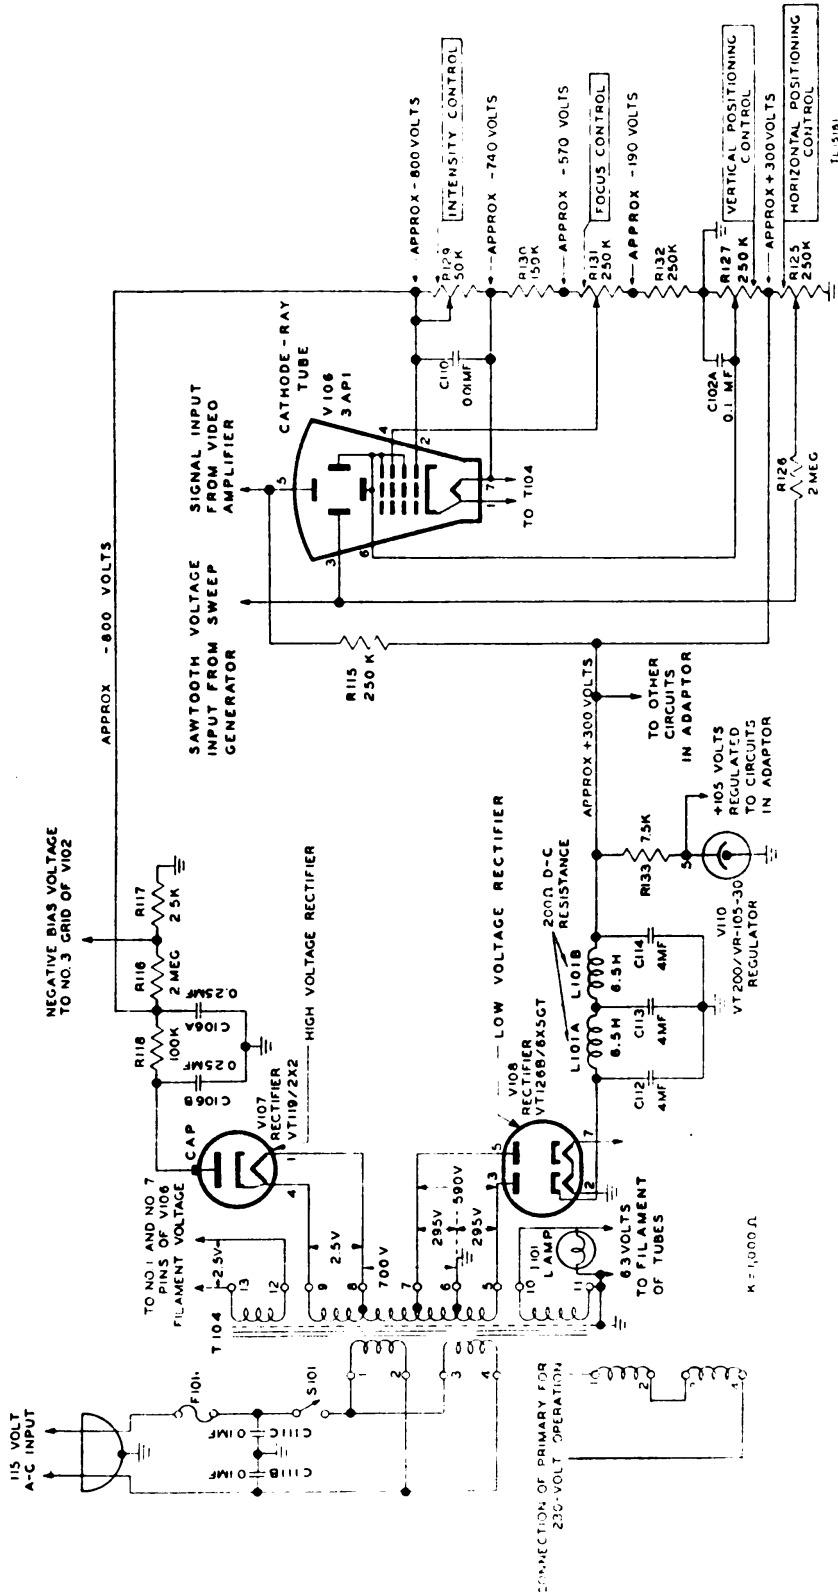

Figure 18. Simplified schematic diagram of rectifier power supplies and cathode-ray tube.
d. In addition to the saw-tooth voltage and signal voltages which are applied to the deflection plates of the cathode-ray tube, several fixed d-c potentials are necessary for the proper operation of this tube (fig. 18). D-c potentials must be impressed on the cathode, intensity or control grid, and the focusing and accelerating anodes, in order to concentrate the electrons into a sharp beam which will pass through the deflection plates and strike the fluorescent screen. Positioning voltage is also necessary on both the vertical and horizontal deflection plates so that the beam or pattern on the screen may be properly centered.
(1) Potentiometers R129 and R131 in series with resistors R130 and R132 act as a voltage divider between the -800 -volt high-voltage rectifier output and the chassis ground. Potentiometers R127 and R125 across each of which is impressed a $+300$ -volt potential, serve as positioning controls.
(2) The electron emitter, or cathode, of V106 is impressed with a high negative voltage between approximately -740 volts and -800 volts, the exact voltage depending on the setting of the intensity control R129. In addition to affecting this voltage, potentiometer R129 also controls the potential difference between the cathode and the intensity grid. By making this difference of potential greater, the grid becomes more negative than the cathode and reduces the amount of electron flow, and thus the amount of illumination on the fluorescent screen. Conversely, when the potential difference is decreased, the grid becomes less negative in respect to the cathode and a greater number of electrons pass through the tube to the screen.
(3) The electrons, after leaving the cathode and passing through the intensity grid, are greatly accelerated by the high positive potentials impressed on the focusing and accelerating anodes.
The adaptor is designed to operate from 115- or 230-volt, 50/60-cycle alternating current. The a-c power source is applied to the primaries of transformer T104 through fuse F101 and switch S101, the POWER ON-OFF switch of the adaptor (fig. 1). Capacitors C111B and C111C act as line filters to prevent interference from entering the adaptor through the power connections. The transformer primaries are connected in series (fig. 18) when the power source is 230 volts and are connected in shunt (fig. 18) when the power source is 115 volts. The secondary windings of transformer T104 supply the a-c voltages for the high and low voltage rectifiers, as well as the filament voltages for the various tubes in the adaptor. The circuit shown in figure 18 is a simplified schematic diagram of the power supply and cathode-ray tube in Panoramic Adaptor BC-1031-A or BC-1032-A. Section IV explains the differences between these models and Panoramic Adaptors BC-1031-B and BC-1032-B.
(4) The two output voltages are tapped off the voltage divider R118, R116, and R117.
(5) The output power of this rectifier is characterized by high voltage and low current.
b. Low-voltage Rectifier (fig. 18). Tube JAN 6X5GT (VT-126B), V108, is a full-wave rectifier tube employed in the low-voltage power supply. This rectifier furnishes a +300-volt d-c potential to various circuits in the adaptor as well as horizontal and vertical positioning voltages for the cathode-ray tube. In addition, it supplies regulated +105-volt, d-c potential for the plate of V101 and the screen grids of V102 and V105.
(1) The anodes of tube V108 are connected across a 590-volt winding of transformer T104, the center-tap connection on this winding being grounded.
(2) The output voltage of the rectifier is well filtered by an L-C capacitor-input network, consisting of capacitors C112, C113, C114, and choke coils L101A and L101B.
(3) The output power of this rectifier is characterized by low ripple voltage and good regulation.
(4) The +300-volt output is impressed across resistor R133 and tube V110, a gas regulator Tube JAN. 0C3/VR-105 (VT-200). This tube maintains a constant voltage drop of 105 volts across its terminals. The operation of the tube is relatively simple. As the voltage across the tube tends to increase, the internal resistance of the tube decreases; thus more current is drawn through the series resistor R133, and the voltage across the tube is maintained at a constant level. Conversely, if the voltage across the tube tends to decrease, the internal resistance increases, less current is drawn through the series limiting resistor, and again the voltage across the tube remains constant. The starting voltage necessary to bring the tube to the point of conduction is somewhat higher than the operating voltage. The tube has upper and lower limits of current flow through it, namely, 30 milliamperes and 5 milliamperes.